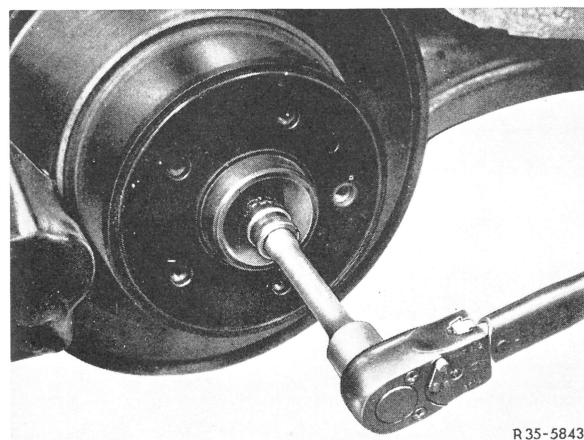

Fig. 2
- 3 Unscrew hex. bolt for attaching rear axle shaft to rear axle shaft flange on both sides (Fig. 2).
20 Tighten hex. bolts to 95 Nm (9.5 kpm) (Fig. 2).